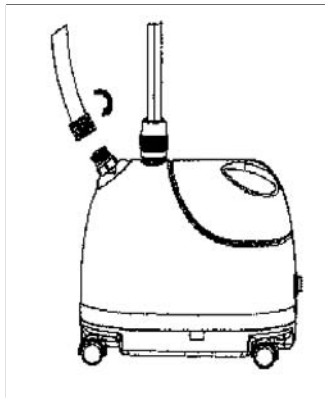

Figure 7
1. Screw the *Hose* onto the threaded *Hose Base* by turning the fitting on the end of the Hose clockwise (see Figure 7).